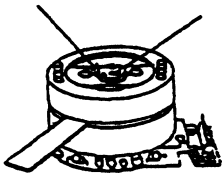

FIG A-1
- 1) Insert the spacer VFK0301 between the upper and lower cylinders to protect the video head. Ensure that you do not damage the video head when inserting the spacer. Fig. A-1.
- 2) Remove 3 screws on the cylinder unit using screwdriver VFK0690. Fig. A-1.